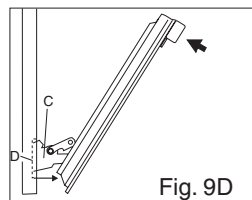

Fig. 9D
- Using both hands, push the oven door lightly inwards, to enable the door hinges "C" to come away from the slots "D" (see fig. 9D) and pull the door towards you until it is released from the oven.